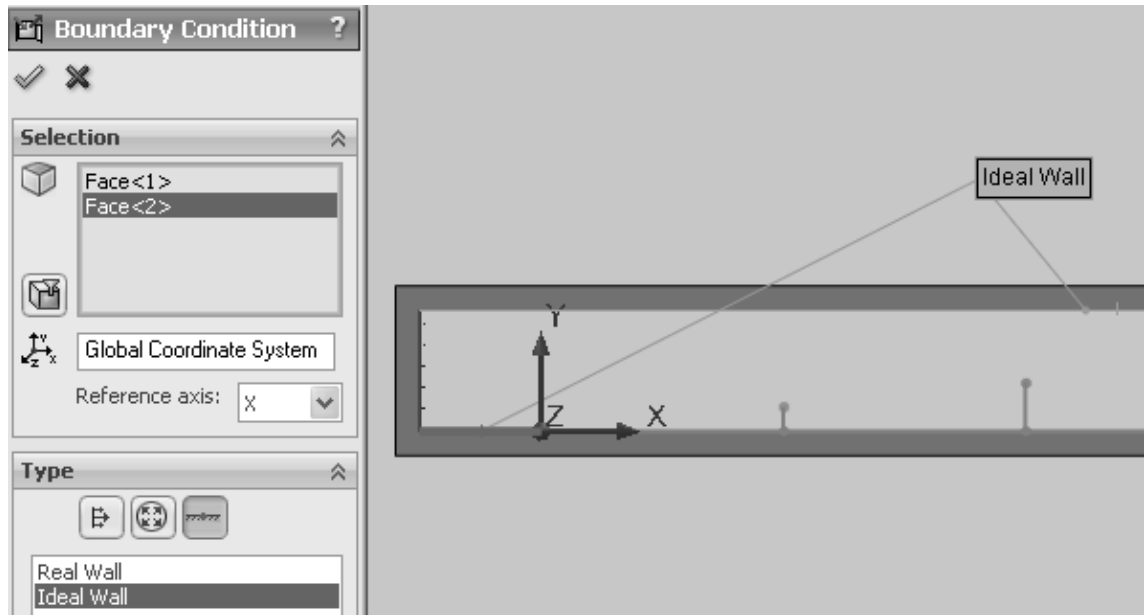

Figure 2.19 Ideal wall boundary condition for upper wall
19. Enter the following boundary conditions: Ideal Wall for the upper wall and lower wall at the inflow region, see figures 2.19. These will be adiabatic and frictionless walls.